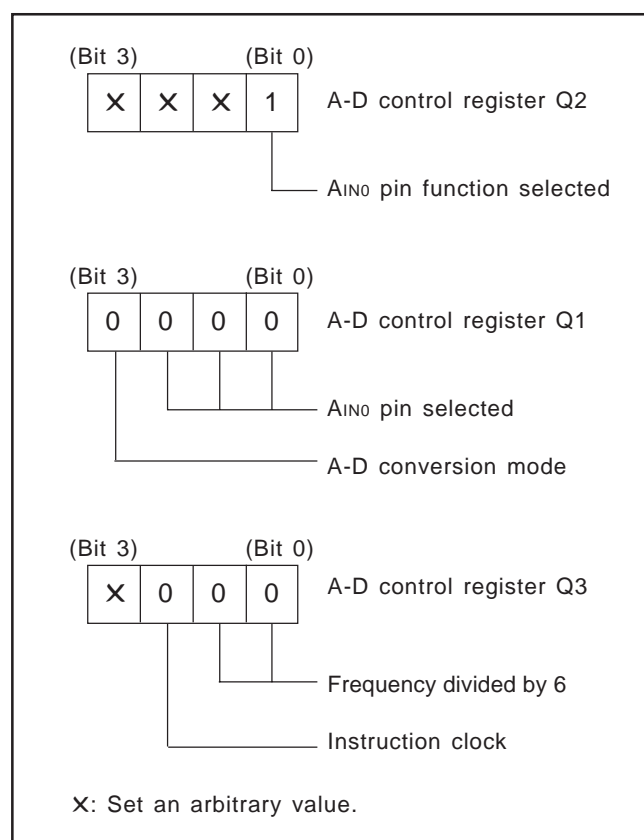

Fig. 37 Setting registers
- ① Select the AIN0 pin function with the bit 0 of the register Q2. Select the AIN0 pin function and A-D conversion mode with the register Q1. Also, the instruction clock divided by 6 is selected with the register Q3. (refer to Figure 37)
- ② Execute the ADST instruction and start A-D conversion.
- ③ Examine the state of ADF flag with the SNZAD instruction to determine the end of A-D conversion.
- ④ Transfer the low-order 2 bits of converted data to the high-order 2 bits of register A (TALA instruction).
- ⑤ Transfer the contents of register A to  $M(Z, X, Y) = (0, 0, 2)$ .
- ⑥ Transfer the high-order 8 bits of converted data to registers A and B (TABAD instruction).
- ⑦ Transfer the contents of register A to  $M(Z, X, Y) = (0, 0, 1)$ .
- ⑧ Transfer the contents of register B to register A, and then, store into  $M(Z, X, Y) = (0, 0, 0)$ .